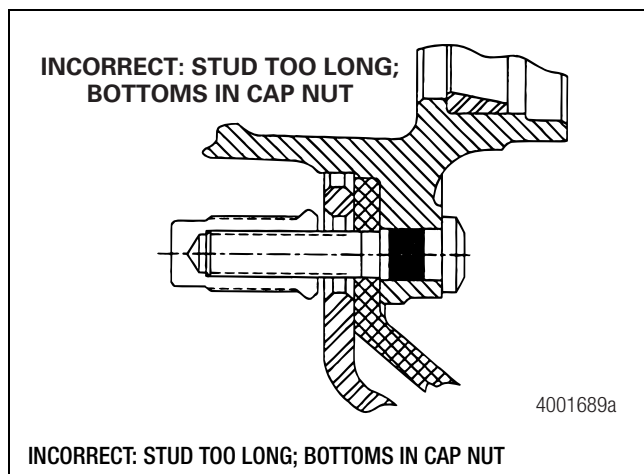
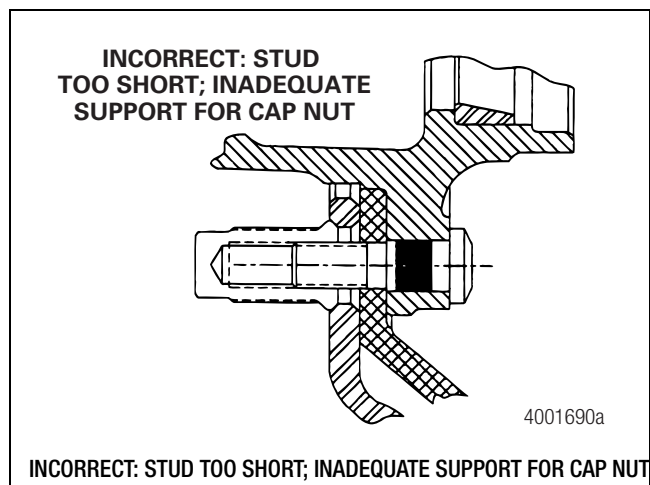

Figure 5.3
Figure 5.4
B. Figure 5.3 and Figure 5.4 show incorrect standout.